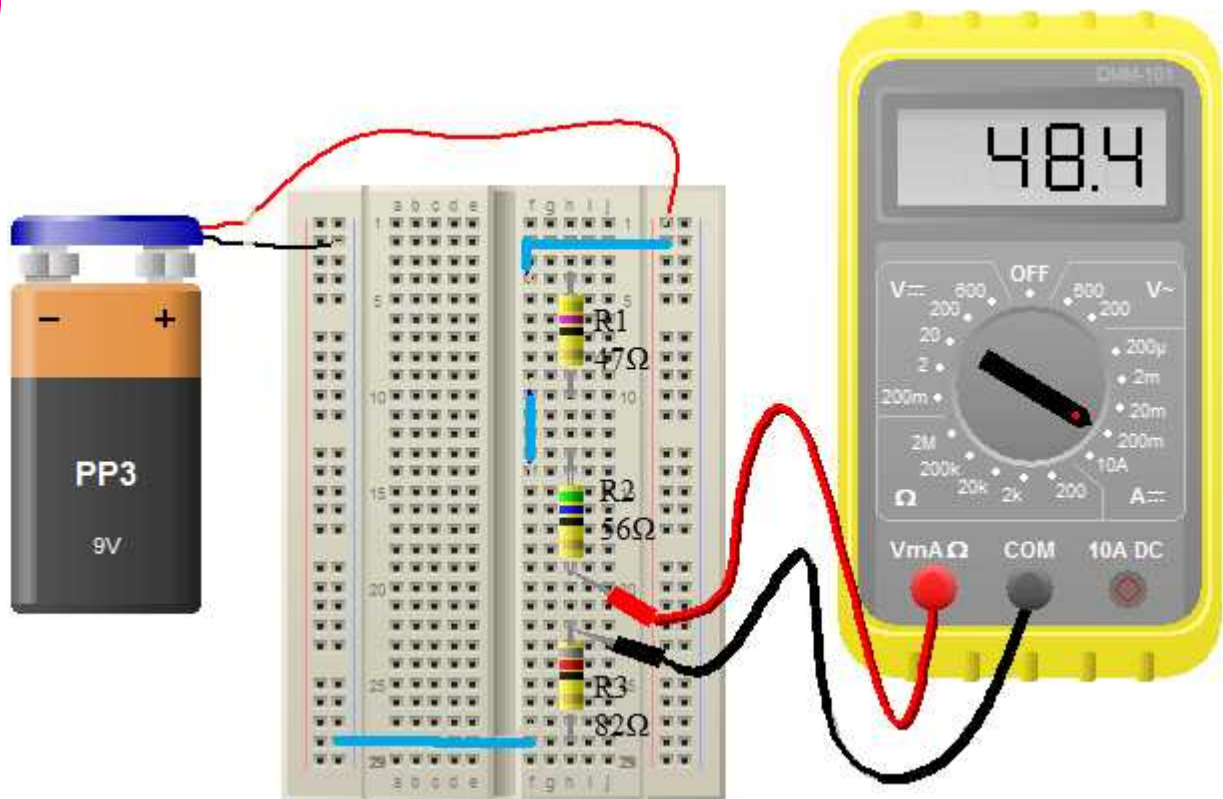

Figure 2-20: Measuring current of the circuit figure 2-17 (c) pictorial connection
10. Open the circuit from resistor R_2 and R_3 and insert the ammeter in between as shown in the circuit pictorial figure 2-20.